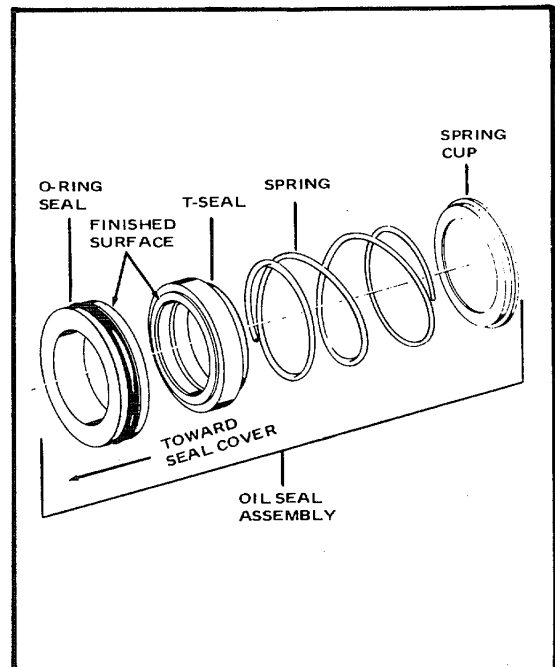

Figure 6-6. Oil Seal, Crankshaft
Pay particular attention to disassembly sequence of oil seal (88) from crank (118). (See Figure 6-6.) Reference sequence for reassembly purposes. Care should be taken not to mar T-seal surface and the o-ring seal finished surface.
- (20) Remove four locknuts (85) and sealing washers (86) and remove the oil seal cover (84). Remove o-ring (87), oil seal (88) and oil pump outer cover (89).
- (21) Remove cap screws (91, 93) and lock washers (92, 94), separate and remove end cover assembly (90) and remove gasket (95). Disassemble cover bushings (96) and o-ring (97) from end cover (90) only when replacement is necessary.
- (22) Remove the four oil pump blades (99), The oil pump rotor (98) and rotor key (100) from crankshaft (118). Remove the oil pump inner cover (101) and four cover studs (102). Press oil seal (103) out of cover (101).
Assure that finished surface of o-ring seal is against (facing inward) T-seal surface. Care should be taken not to mar T-seal surface or o-ring seal finished surface. (See Figure 6-6).